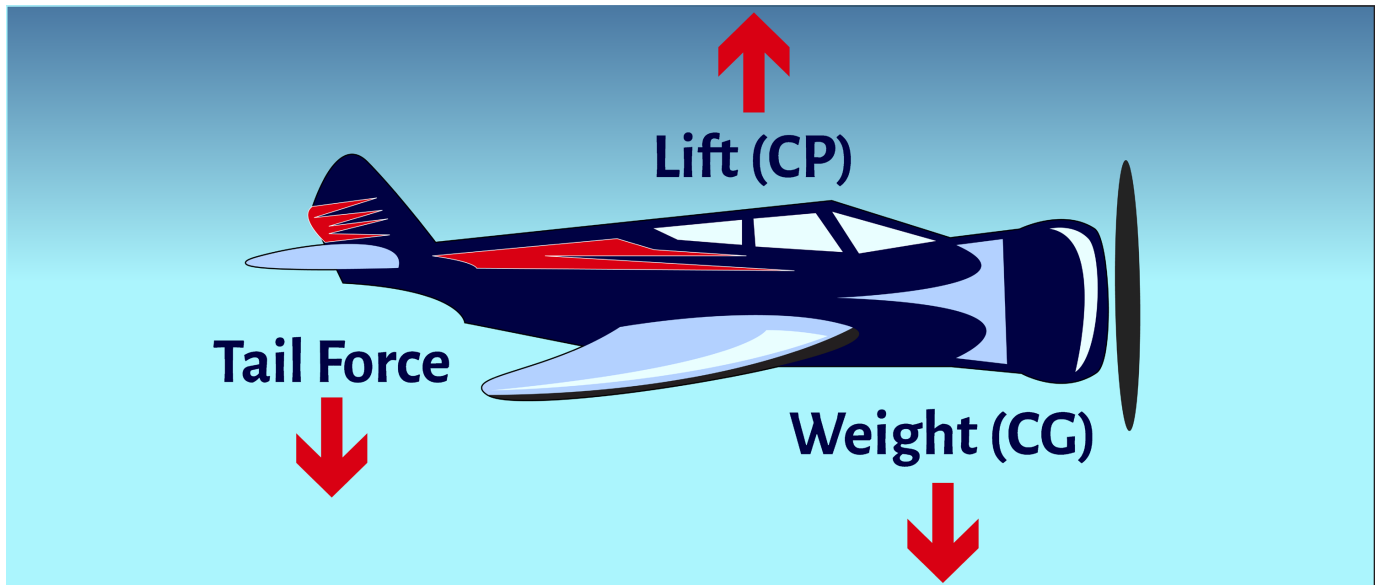

Figure 2-3: In a balanced aircraft, the center of pressure (CP) is aft of the center of gravity (CG)
Gravity is the pulling force that tends to draw all bodies to the center of the earth. The **center of gravity (CG)** may be considered as a point at which all the weight of the aircraft is concentrated. If the aircraft were supported at its exact CG, it would balance in any attitude. It will be noted that CG is of major importance in a small UA, for its position has a great bearing upon stability. The allowable location of the CG is determined by the general design of each particular aircraft. The designers determine how far the **center of pressure (CP)** will travel. It is important to understand that an aircraft's **weight** is concentrated at the center of gravity (**CG**), and the aerodynamic forces of **lift** occur at the center of pressure (**CP**). When the CG is forward of the CP, there is a natural tendency for the aircraft to want to pitch nose down. The tail of the aircraft acts like an upside-down wing, pushing the tail-side down and counteracting the center of gravity. [Figure 2-3]